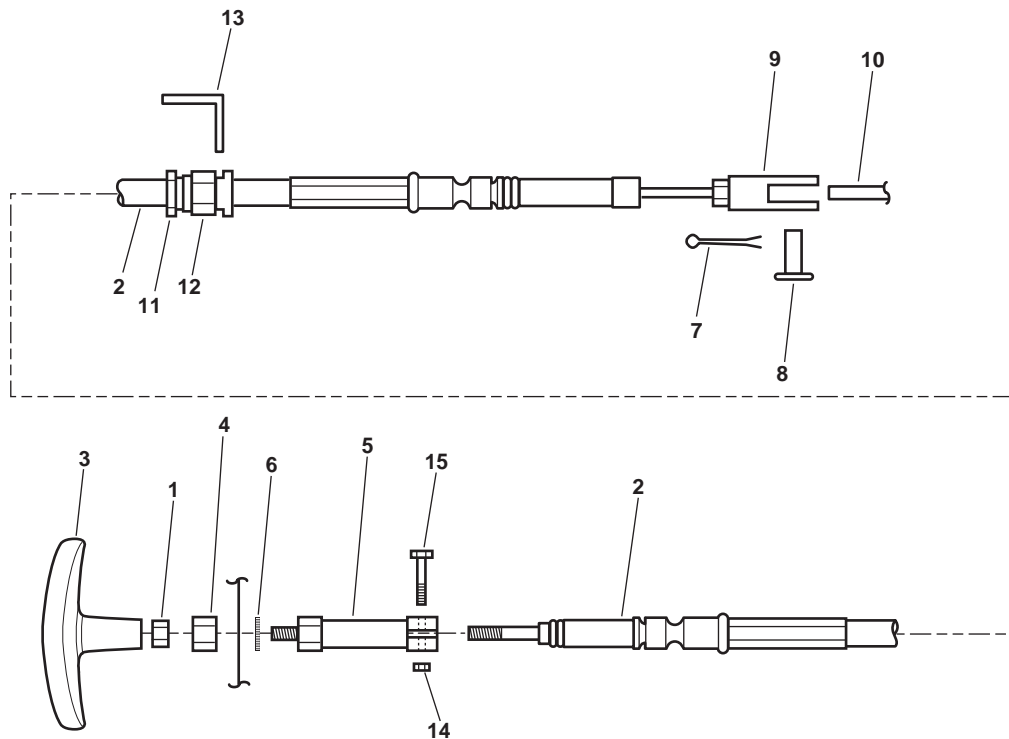

Figure 1. Fire Flap Pull Cable Replacement
1. Loosen the jam nut (figure 1, item 1) on the exterior end of the fire flap pull cable (figure 1, item 2) and unscrew the T handle (figure 1, item 3) and jam nut.
2. Remove the nut (figure 1, item 4) from the DC kit (figure 1, item 5) and remove the fire flap pull cable (figure 1, item 2), DC kit, and shim (star washer) (figure 1, item 6) from the bulkhead. Discard the star washer.
3. Remove the cotter pin (figure 1, item 7) and clevis pin (figure 1, item 8) from the clevis (figure 1, item 9) and pull the fork away from the actuator arm (figure 1, item 10). Discard the cotter pin.
4. Loosen the nut (figure 1, item 11) on the cable clamp (figure 1, item 12) and slide the fire flap pull cable (figure 1, item 2) and cable clamp free of its attachment point (figure 1, item 13)
5. Remove the nut (figure 1, item 14) and bolt (figure 1, item 15) from the DC kit (figure 1, item 5) .
6. Spread the slot in the cable end of the DC kit (figure 1, item 5) enough to permit the fire flap pull cable (figure 1, item 2) to be pulled free of the DC kit. Remove the DC kit from and fire flap pull cable.
7. Free the fire flap pull cable (figure 1, item 2) from its cable hangers along its entire length.
1. Fasten the fire flap pull cable (figure 1, item 2) in its cable hangers along its entire length.
2. Slide the DC kit (figure 1, item 5) onto the fire flap pull cable (figure 1, item 2) and secure it with the nut (figure 1, item 14) and bolt (figure 1, item 15).
3. Position the DC kit (figure 1, item 5) in the bulkhead and secure it with the nut (figure 1, item 5) and a new star washer (figure 1, item 6).
4. Thread the jam nut (figure 1, item 1) completely onto the end of the fire flap pull cable (figure 1, item 2).
5. Thread the T handle (figure 1, item 3) onto the end of the fire flap pull cable (figure 1, item 2) and secure it with the jam nut (figure 1, item 1).
6. Position the cable clamp (figure 1, item 12) in its attachment point (figure 1, item 13) and loosely tighten the nut (figure 1, item 11).
7. Push the T handle (figure 1, item 3) all the way IN.
8. Slide the fire flap pull cable (figure 1, item 2) through the cable clamp (figure 1, item 12) until the hole in the clevis (figure 1, item 9) aligns with the hole in the actuator arm (figure 1, item 10).